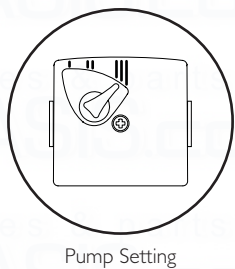

Fig. 80
3. A standard replacement Grundfos 15-60 head can now be fitted. Connect the pump wiring to the new head. **The pump speed must be set to 3** (Fig. 80).